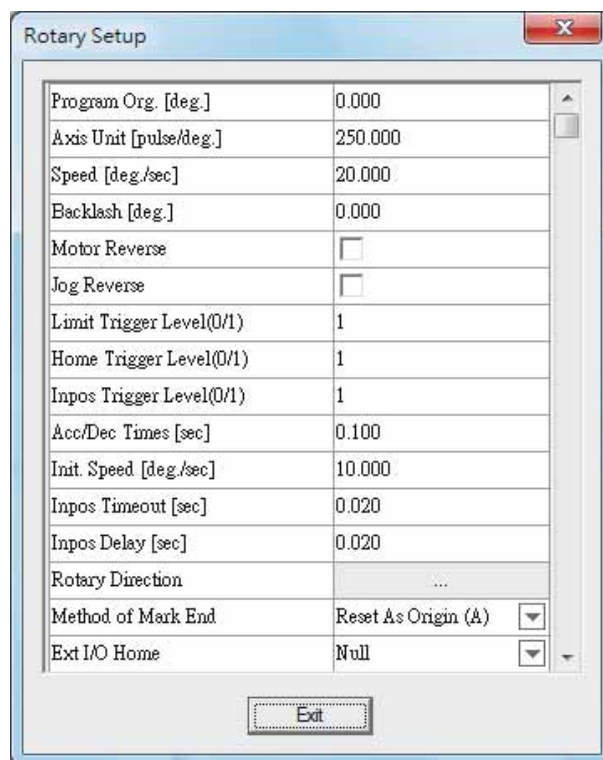

Fig. 1.7.30
6. Click “SETUP...” and do more detail settings, see Fig.1.7.30.